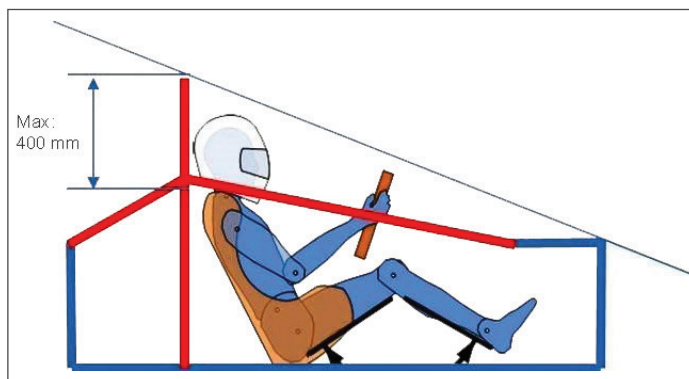

Figure 1 Protection of the driver.
- i. The roll cage and the sitting position must be formed according to Fig 1. illustration- the driver' body parts must not reach above the line which is fitted to the frame.